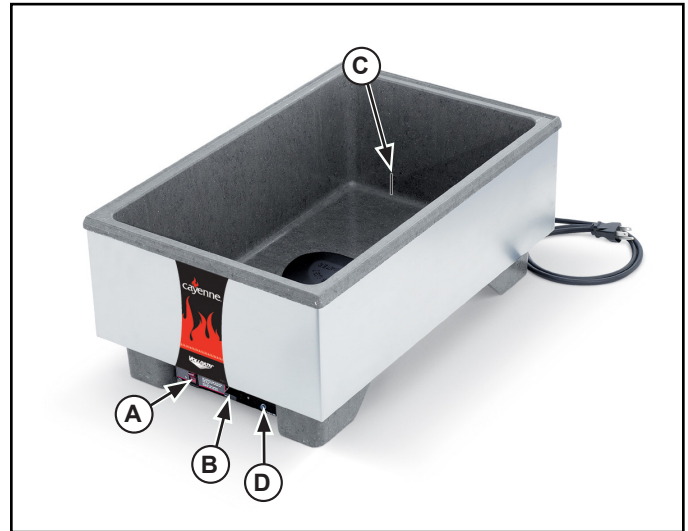

Figure 1. Features and Controls.
1. Fill the well to the correct level marks (C) with clean fresh water. Correct level is about 1" (2.5 CM) or approximately 5.5 quarts (5.2 Lt.) of water. Do not over fill. See Figure 1.